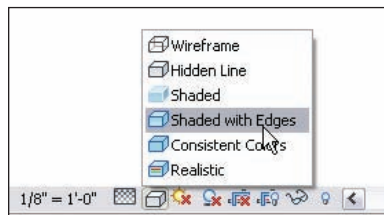

FIGURE 1.42 The Visual Style button enables you to view your model in color. This is typical for a 3D view.
2. On the View Control bar, click the Visual Style button and choose Shaded with Edges, as illustrated in Figure 1.42.